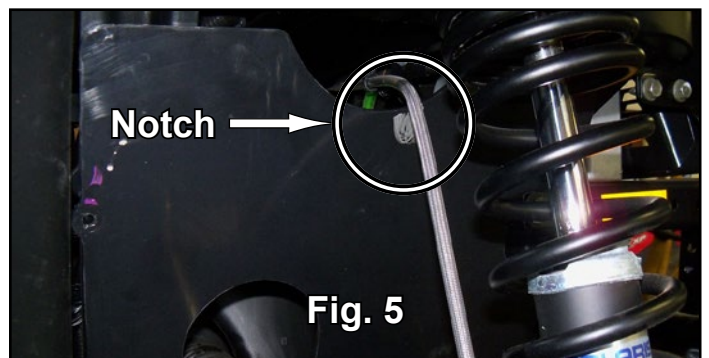

Fig. 5
11. Cut a notch in Wheel Well Panels for Brake Line clearance. See Fig. 5.